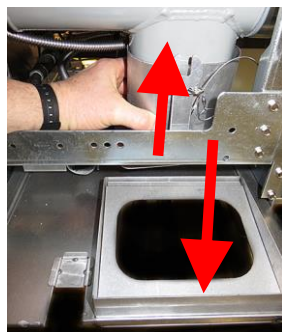

Figure 2
4. Remove the filter pan lid by lifting the collar up, around the drain tube, while pulling the filter pan lid forward (see Figure 2).